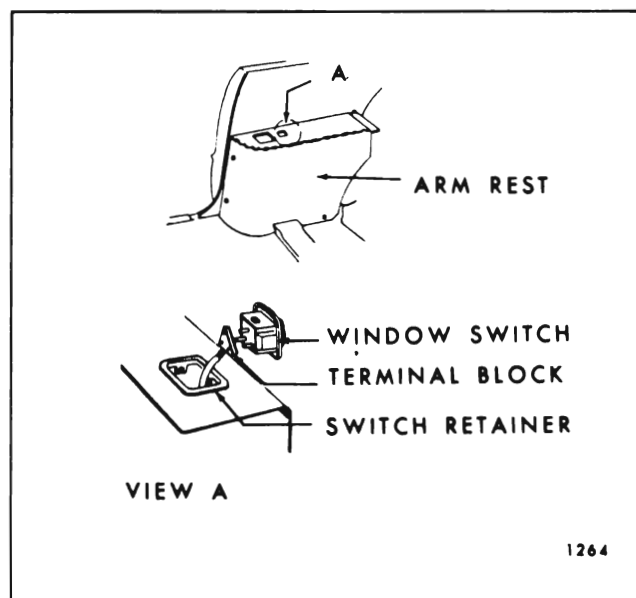

Fig. 14-24—Rear Quarter Arm Rest Window Switch
- g. On styles with other electrical devices in arm rest assembly, carefully detach arm rest from rear quarter inner panel sufficiently to disconnect wire harness connectors. Figures 14-24 and 14-25 are indicative of electrical installation in rear quarter arm rests. Lift arm rest in an upward, inboard movement and remove assembly from rear quarter inner panel (except "E" & "F" Bodies).